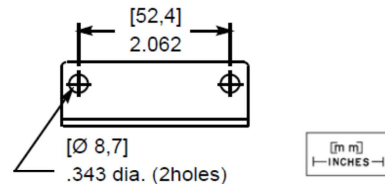
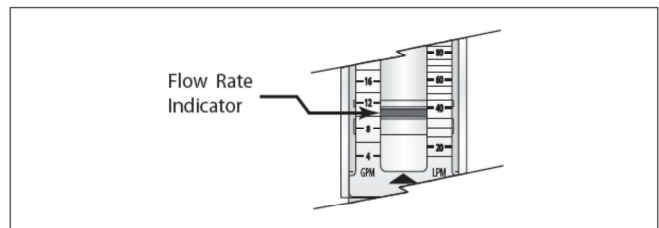

Figure 1. Mounting Bracket Dimensions
Figure 2. Flow Rate Indicator
For Mounting bracket (optional feature) dimensions, refer to Figure 1.
1. Disassemble valve in an orderly fashion using exploded views for identification and placement of parts. Refer to Figure 1 for AC construction; Figure 2 for DC construction.
3. Unscrew solenoid base sub-assembly from valve body. Then remove core assembly with core spring and bonnet gasket. For AC construction (Figure 1) core spring is a loose piece.
IMPORTANT: The spacer on the stem/spacer sub-assembly must be inside of the stem retainer for AC construction (Figure 1) and outside of the stem retainer for DC construction (Figure 2).
The EZ-View series flow meter is a piston-type variable area flow meter that uses a sharp-edged annular orifice, formed between an open-centered piston and a tapered metering cone. The piston is held in a "no-flow" position at the base of the cone by a precision retention spring. As flow in the pipe increases, the differential pressure correspondingly increases across the piston orifice, and moves the piston/flow indicator against the spring. The greater the flow rate, the further the piston moves along the tapered metering cone. The flow rate is measured by viewing the red indicator ring, mounted on the piston, relative to a graduated flow scale located on the transparent flow meter body. See **Figure 2**.